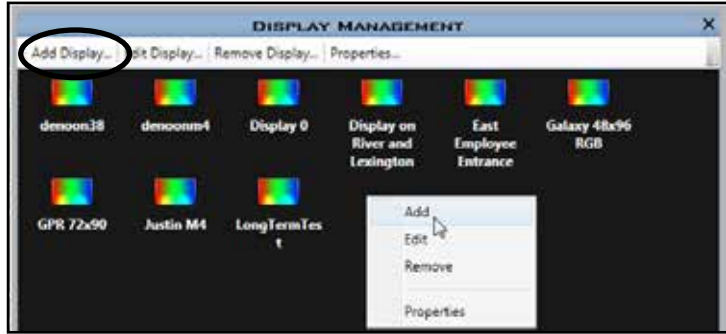

Figure 16: Configure a New Display
- Click **Add Display...** from the **Display Management** window. Or right-click in the **Display Management** window and select **Add Display...**, as shown in **Figure 16**.